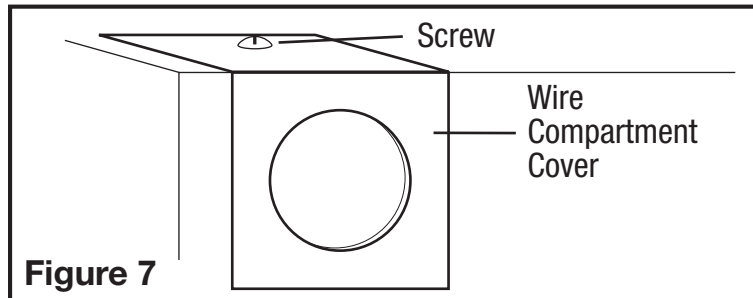

Figure 7
1. Remove the wire compartment cover screw and place cover in a secure place (Figure 7).